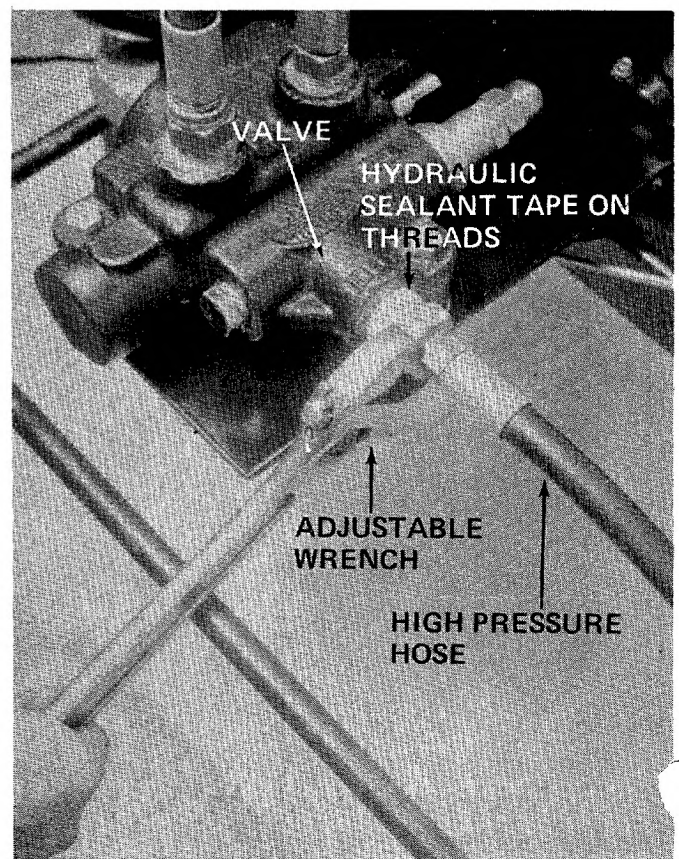

FIGURE 8
8. Assemble the high pressure hose to the valve. A 1-1/8" wrench or adjustable wrench is required. See figure 8.